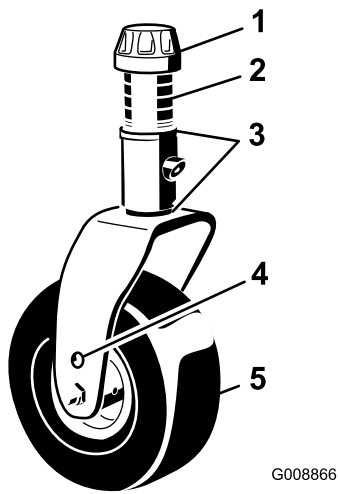

Figure 16
- Remove the tensioning cap from the spindle shaft (Figure 16) and slide the spindle out of the castor arm. Put the 2 shims (1/8 inch [3 mm]) onto the spindle shaft as they were originally installed. These shims are required to achieve a level across the entire width of the cutting units. Slide the appropriate number of 1/2 inch spacers (refer to the chart below) onto the spindle shaft to get the desired height-of-cut; then slide the washer onto the shaft.